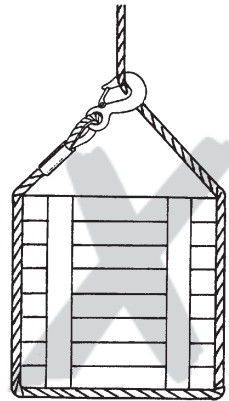

Fig. 4
- The rope must not be used as a rope sling (Fig. 4).